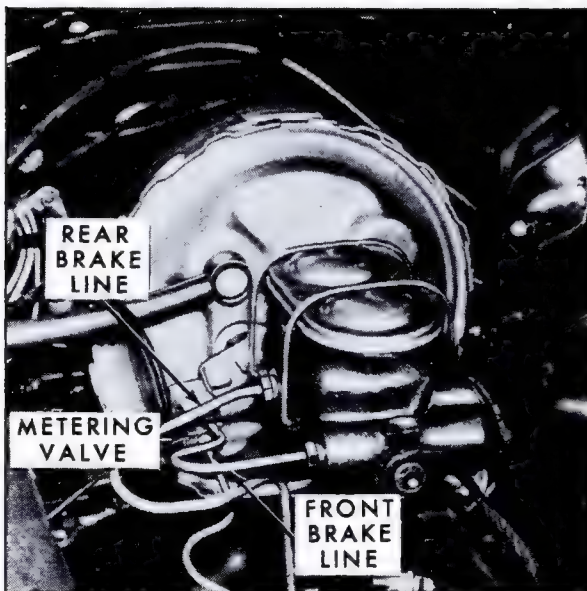

Fig. 5-19 Power Brake Unit
1. Disconnect hydraulic brake lines from master cylinder, Fig. 5-19. Cap line fittings to prevent dirt from entering brake lines.